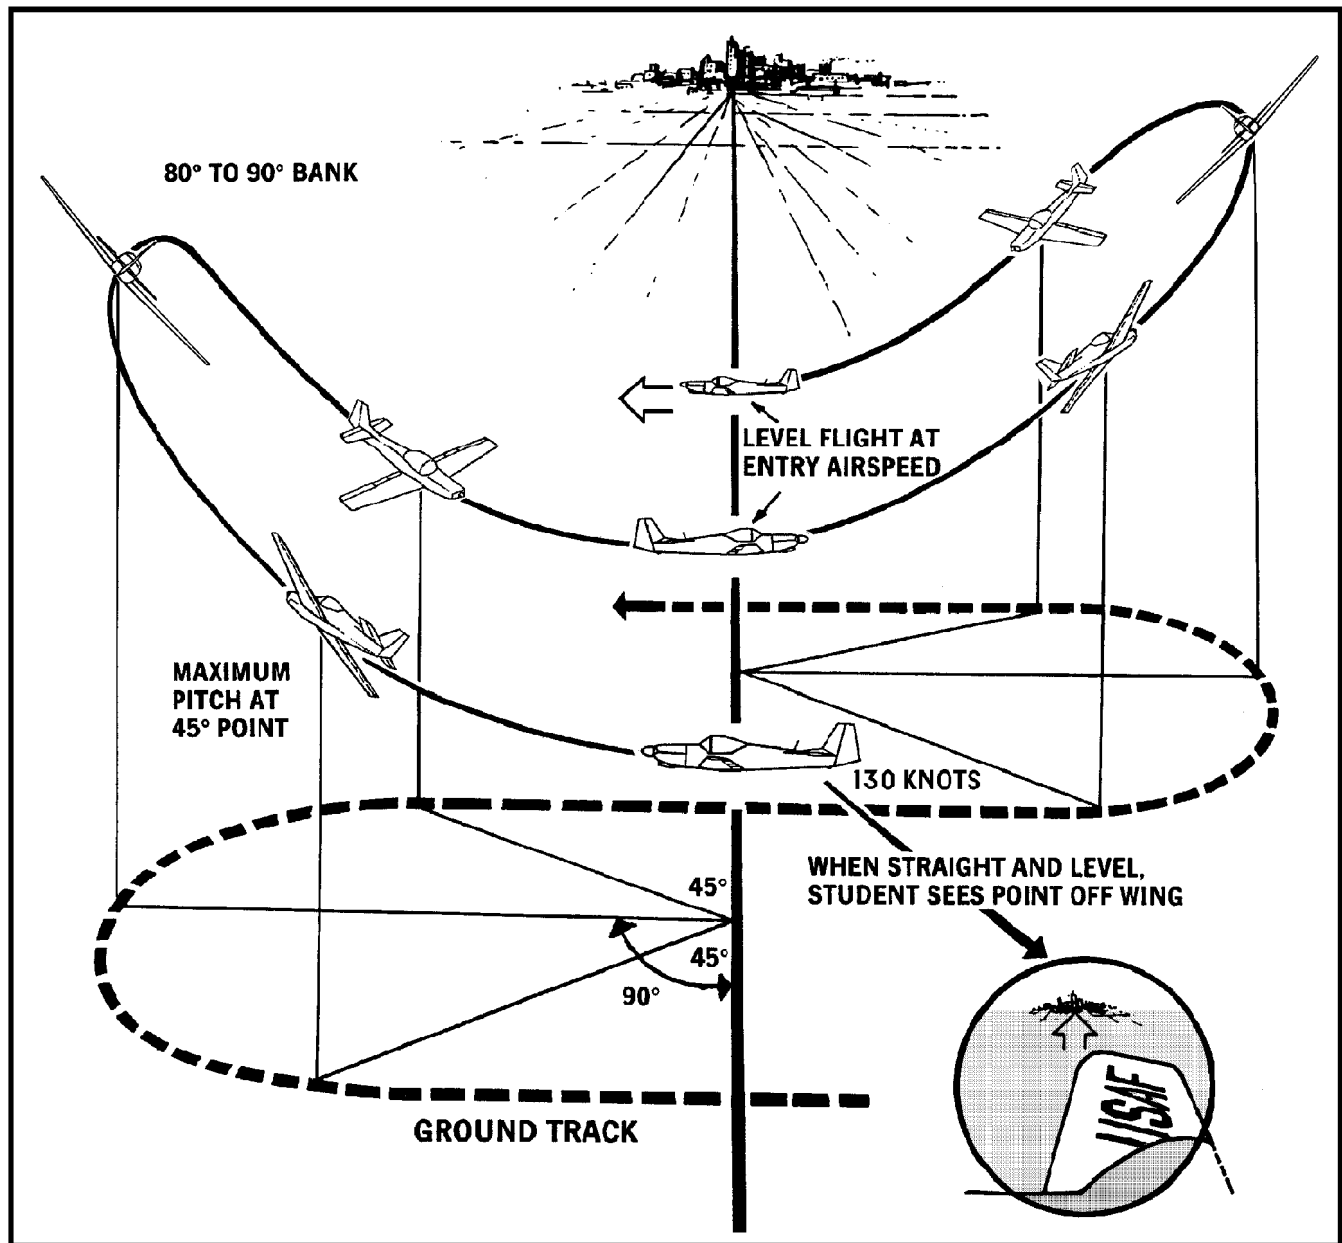

Figure 5.9. Lazy Eight.
**5.22. Lazy Eight.** A lazy eight is basically a coordination exercise. It is a slow, lazy maneuver where the nose track of the aircraft describes a figure eight lying on its side at the horizon (figure 5.9). The horizon line bisects this figure eight lengthwise. The maneuver includes a 180° change of direction and reversal, requiring a continuous change of pitch and bank.